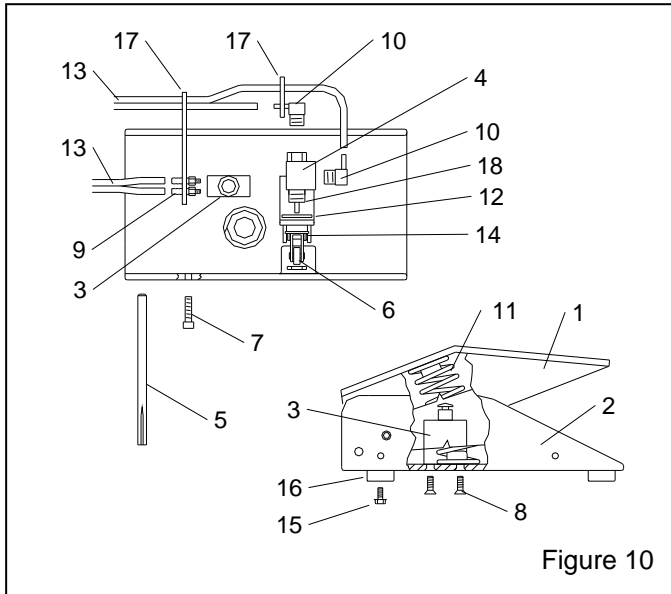

Figure 10
9.3 Foot Pedal Assembly, Figure 10